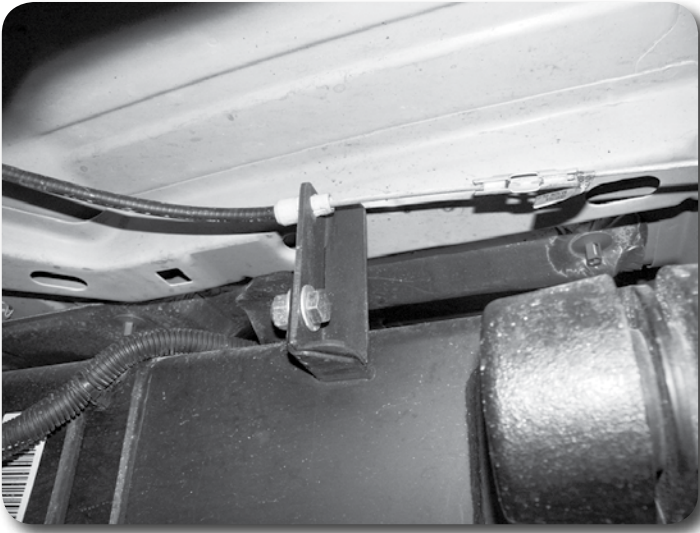

Figure 13
33. Attach the provided parking brake cable bracket to the factory cable mount and fasten with a 1/2" x 1-1/4" bolt, nut and 1/2" SAE washers. Torque bolt to 65 ft-lbs. The bracket will mount to the back surface of the factory mount **Figure 13**.